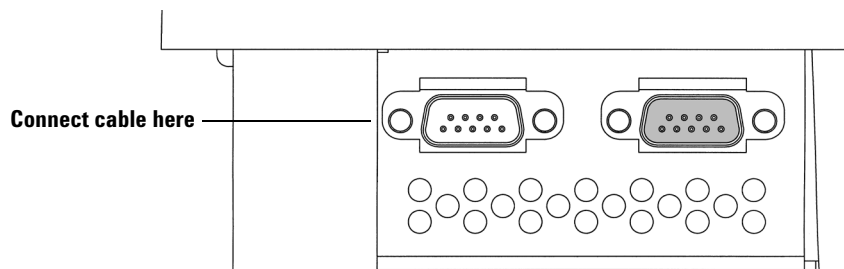

Figure 25 Connecting the cable
- 4 Run the cable to the back of the tray and connect it to the **Bar code** receptacle. Tighten the two securing screws. See Figure 25.